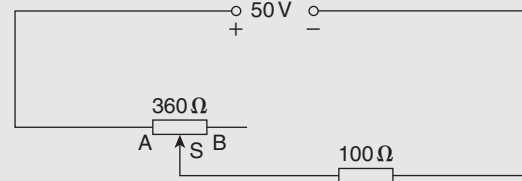

Figure 5.43
**Problem 16.** In the circuit of Fig. 5.43, calculate the current flowing in the  $100\ \Omega$  load, when the sliding point S is  $2/3$  of the way from A to B.